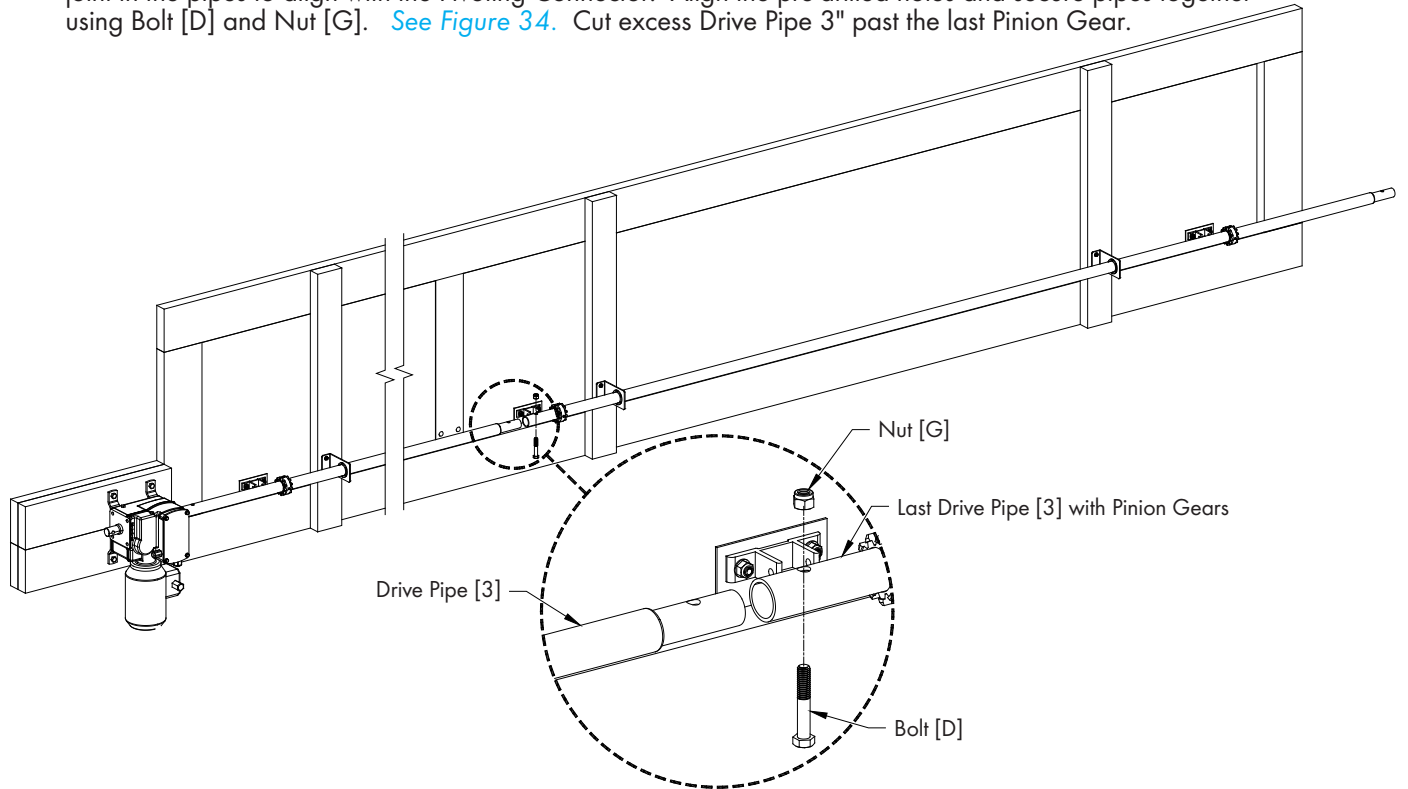

Figure 34
The last Drive Pipe [3] requires (2) Pinion Gears on the Pipe. Slide the Drive Pipe into the Bronze Bushing in last (2) Guide Plates [13], there will be one Pinion Gear lined up with each Pivoting Connector. Slide the opposite end onto the swedged end of the previous pipe. If needed slide one of the Pinion Gears past the joint in the pipes to align with the Pivoting Connector. Align the pre-drilled holes and secure pipes together using Bolt [D] and Nut [G]. See Figure 34. Cut excess Drive Pipe 3" past the last Pinion Gear.